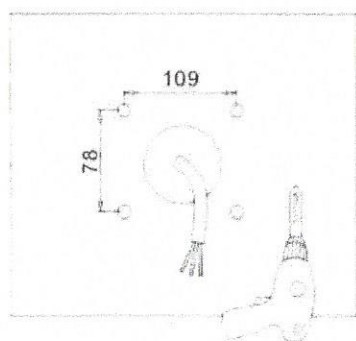

Figure 12
1.Cut holes on the wall according to locating plate.(Figure 12)